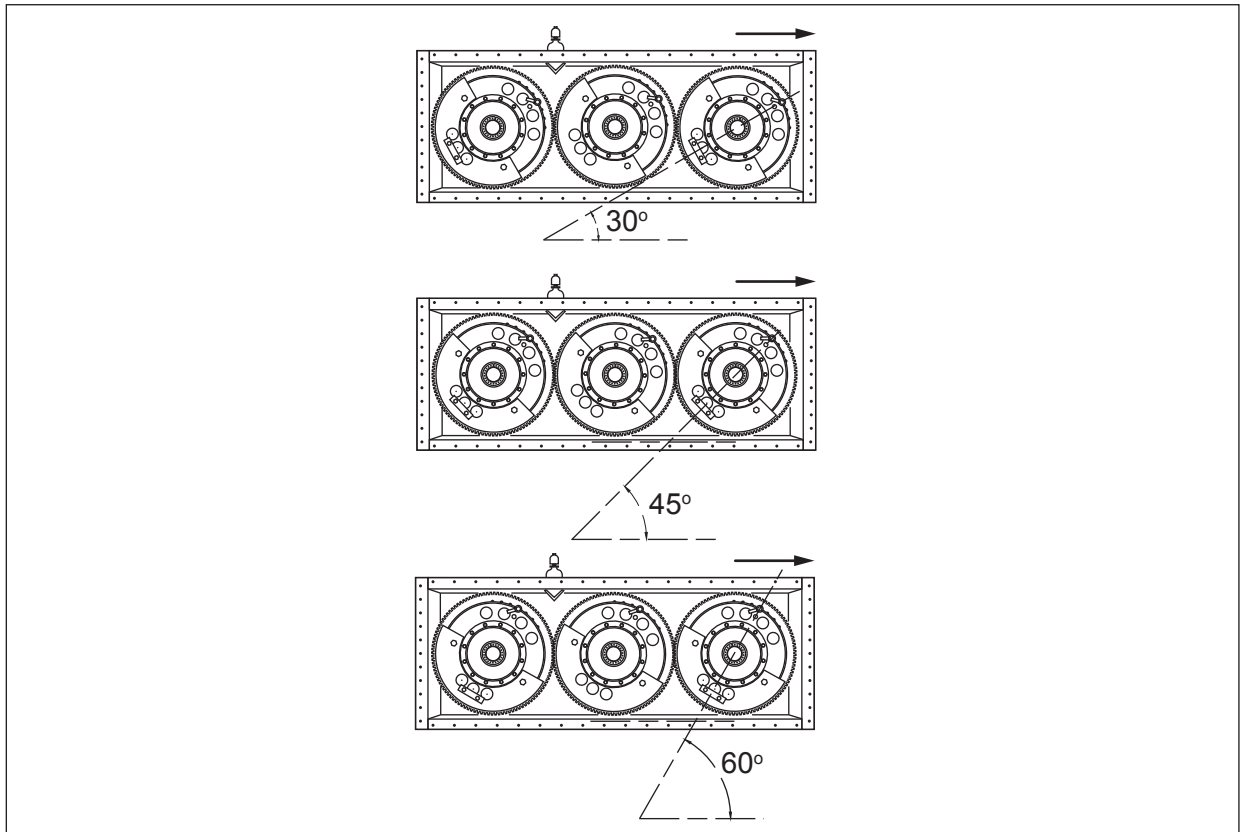

Figure 9.68 - Relative Positions of Weight Discs
9. Stroke angle is the angle at which an imaginary line through centre of shaft end and the centre plug hole intersects the horizontal plane. For a flatter stroke angle, turn centre weight more than 90°. Figure 9.68 shows the relative gear position with timing set at 30°, 45° and 60° stroke angles, respectively. The arrows in the figure indicate the direction of material flow.